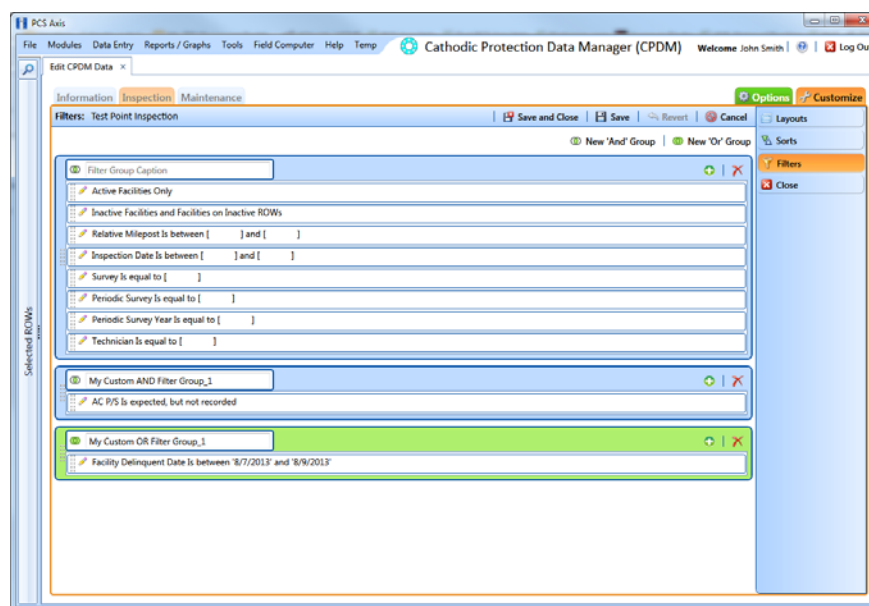

Figure 6-78. Filters
- 3 Click the **Customize** tab , then the **Filters** button  to open the *Filters* page (Figure 6-78).